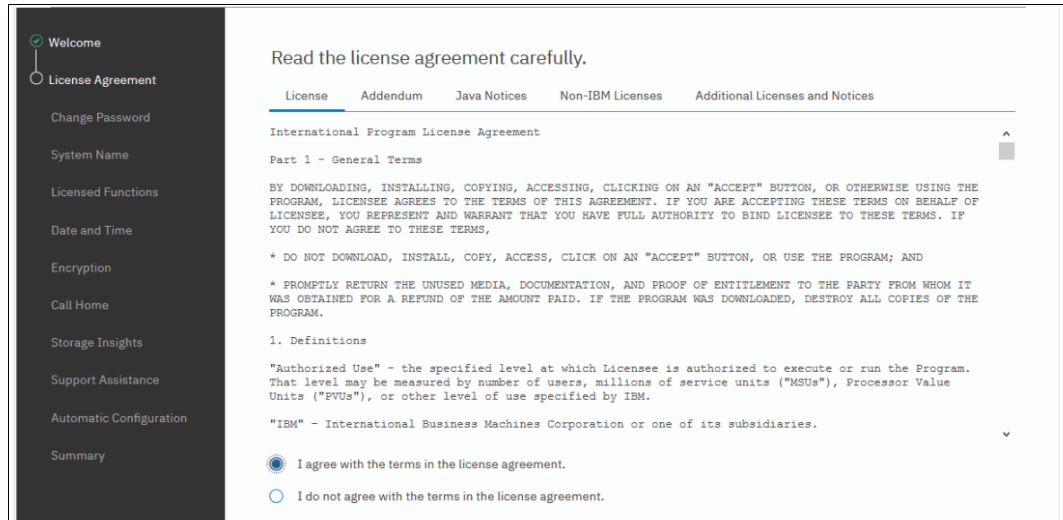

Figure 3-11 System Setup: License agreement
3. Carefully read the license agreement, select **I agree with the terms in the license agreement** if you want to continue the setup, as shown in Figure 3-11, and click **Next**.